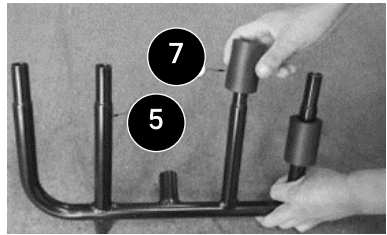

Fig. 1
1. Insert the foam paddings (#7) into the bottom bike holders (#5). Refer to Fig. 1. Set aside.